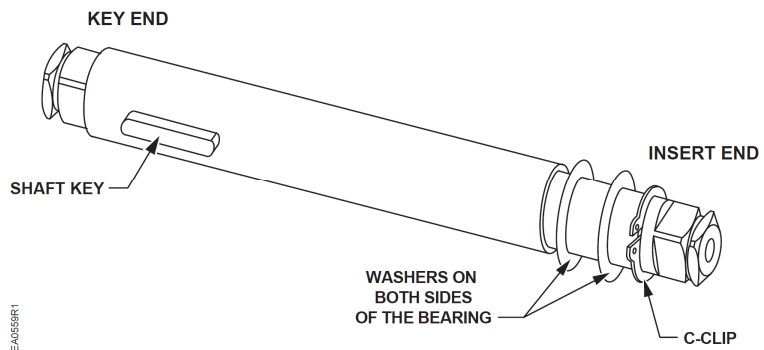

Figure 4.
3. Each shaft is supplied with two washers and a “C” clip. See Figure 4. Using spreading pliers, remove the “C” clip and the washers from the shaft.